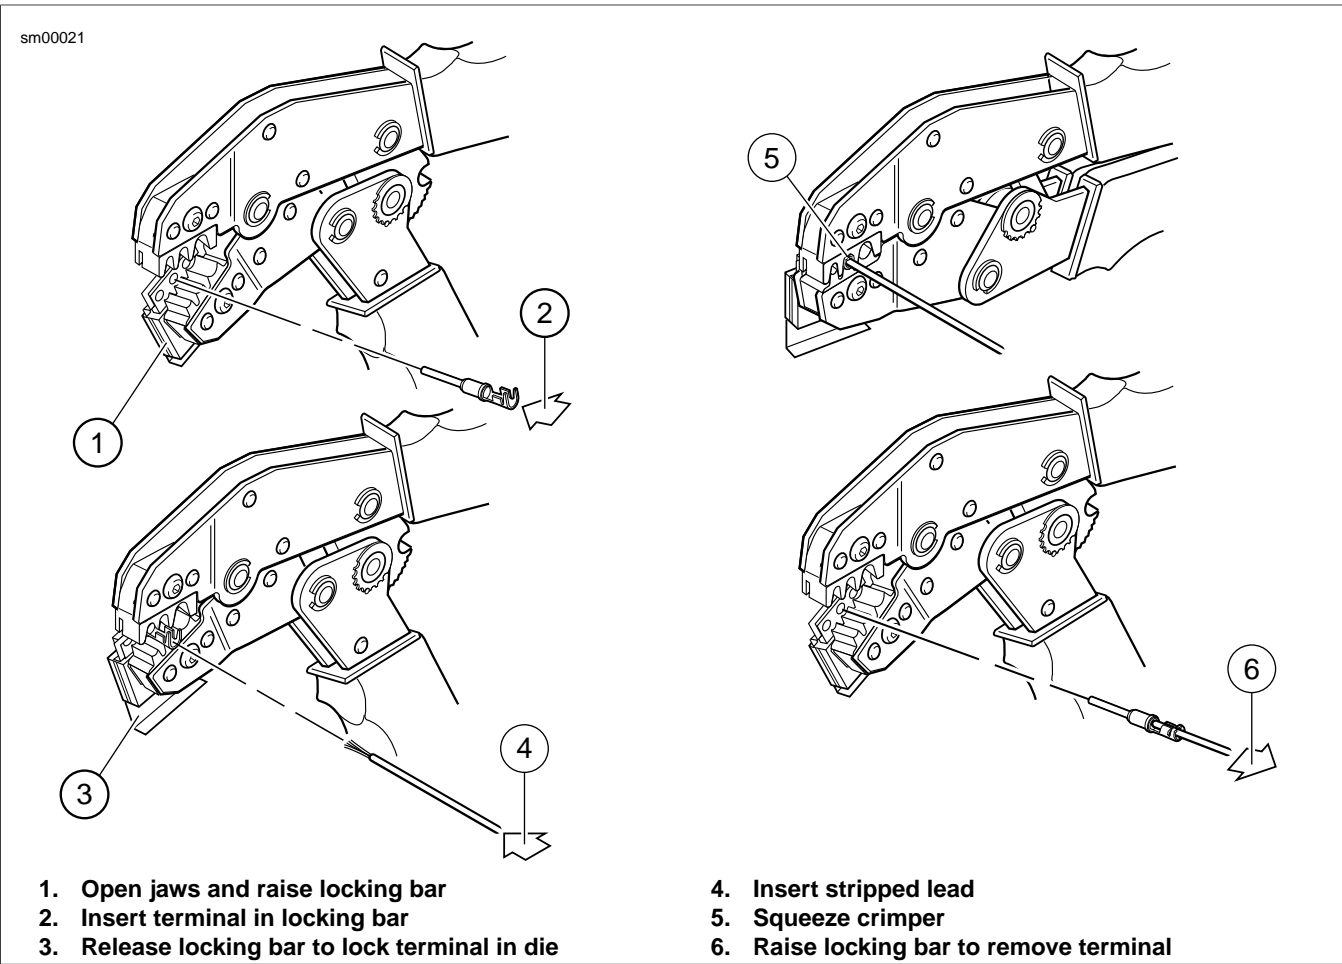

Figure A-35. Crimping a Deutsch DT Sealed Terminal
1. See Figure A-35. Squeeze the handles of the DEUTSCH TERMINAL CRIMP TOOL (Part No. HD-39965-A) to open the jaws. Push the locking bar (1) up.